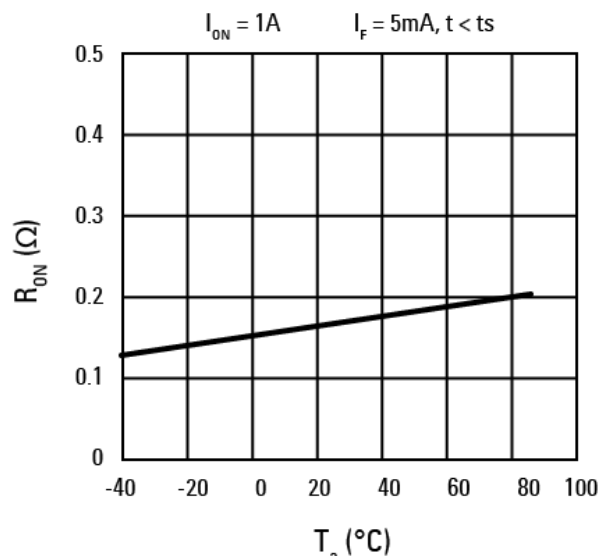

Fig. 2 $R_{ON} - T_a$
- Ambient temperature can influence R_{ON} (Fig. 2). R_{ON} and power consumption become higher when ambient temperature is higher.